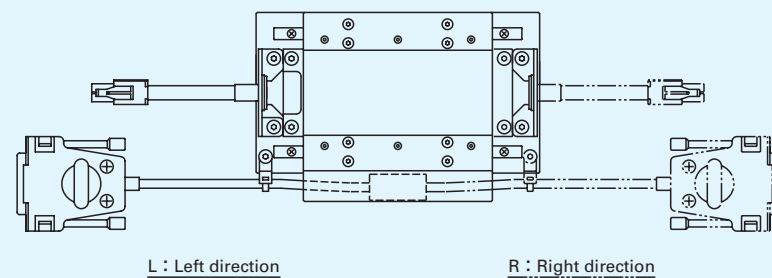

Fig.1 Cord directions
① Type	NT...V : Nano Linear NT...V
② Size	55 : Width 55mm 80 : Width 80mm
③ Stroke length	25 : 25mm 65 : 65mm 120 : 120mm (Applicable to NT80V)
④ Encoder interface specification	1 : 0.1 μ m 5 : 0.5 μ m
⑤ Cord direction	L : Left direction R : Right direction Cord direction is selected from Fig.1 shown below.